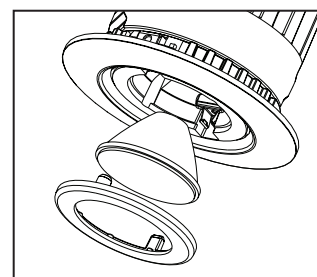

Figure 20
**Step 2.** Place the desired optic onto the gimbal face. Align the 2 posts on the gimbal face with the spring receivers in the gimbal body. Push the face and optic into the gimbal body (Fig. 20).